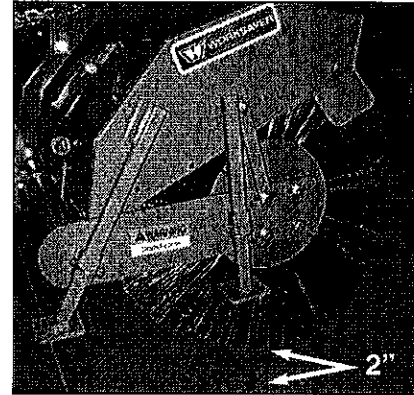

Figure 17
4. At each end of the brush head, measure from the center of the core shaft to the ground (Figure 17).